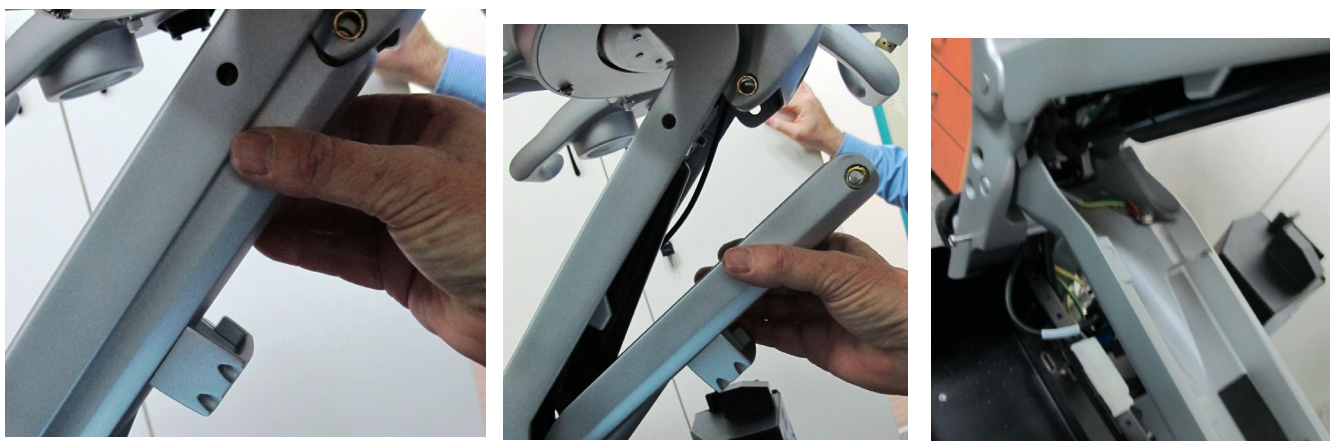

Figure 8-105 Upper Section of Lower Arm
- 5.) Lower the Lower Arm as shown in Figure 8-105 below.
- 6.) While moving the console slightly up and down with one hand, insert the securing pin (previously removed) - refer to Figure 8-105 "Upper Section of Lower Arm" on page 8-115.